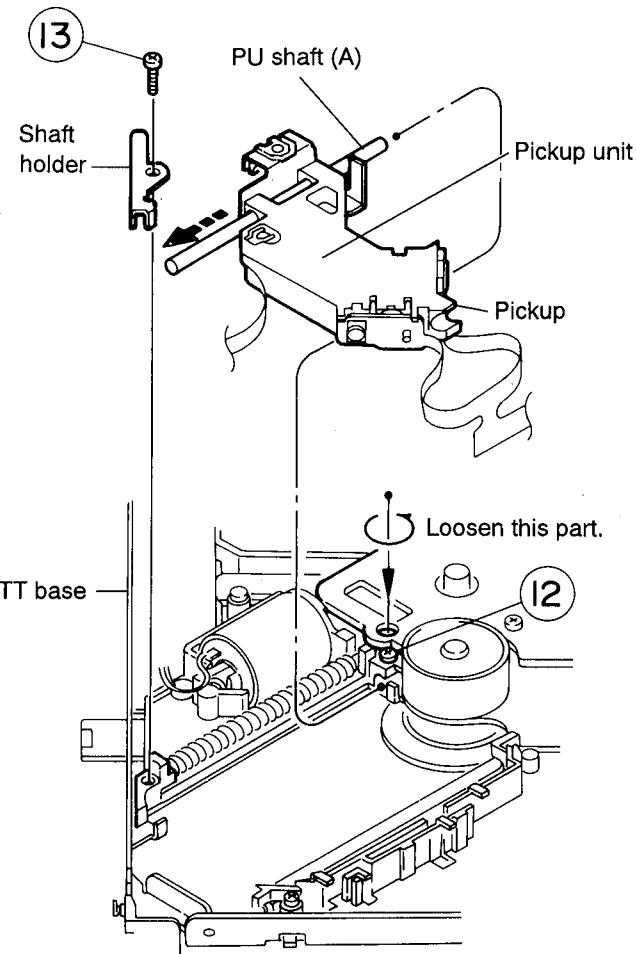

Fig. 4-22
(See Figs. 4-22 and 4-23)
1. By loosening the screw (12) retaining the pickup (PU) shaft (A), remove the screw (13) and dismount the shaft holder (See Figs. 4-22 and 4-23).
### ● Assembly of pickup unit (See Figs. 4-22 ~ 4-25)
3. Insert the PU shaft (A) to the pickup and press it fully to the end on the TT base side (See Fig. 4-22).
4. After attaching the shaft holder, tighten the loosened screw (12) (See Fig. 4-22).